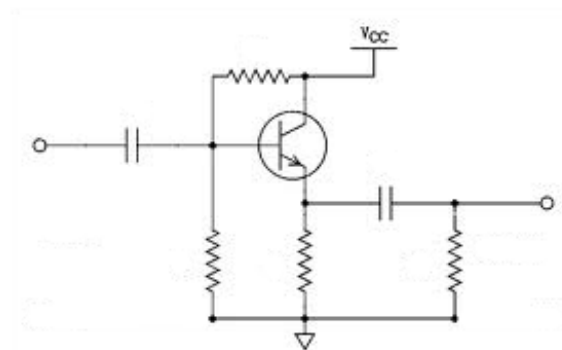

Figure 9: An emitter follower that uses a biasing circuit.
- Build the emitter-follower circuit shown in Figure 9, choosing appropriate values for resistors and capacitors. Use a 2N3904 transistor, or a similar substitute NPN BJT. You will power the circuit with  $V_{cc} = +5V$ , and will want to amplify signals in the range 100Hz to 50kHz. Mind your R's and C's!